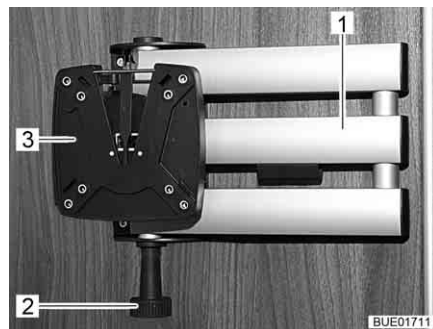

Fig. 64 Holder with jointed arm
- Pull the release knob (Fig. 64,2). The jointed arm (Fig. 64,1) is unlocked.
- Turn the flat screen back into the original position until you hear the holder (Fig. 64,3) engage in the lock.